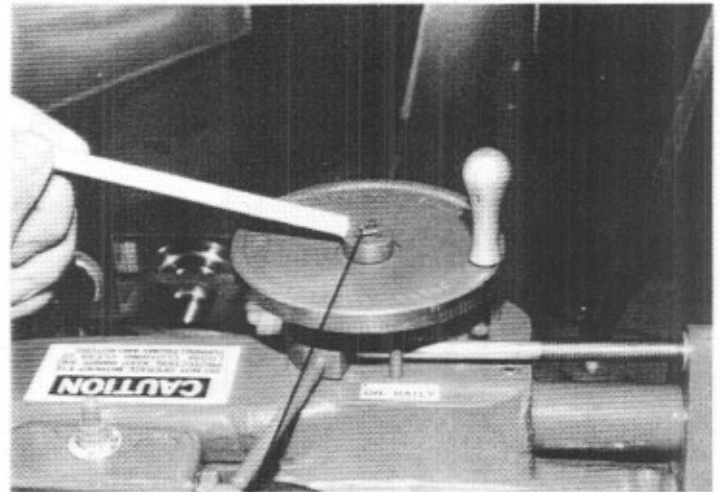
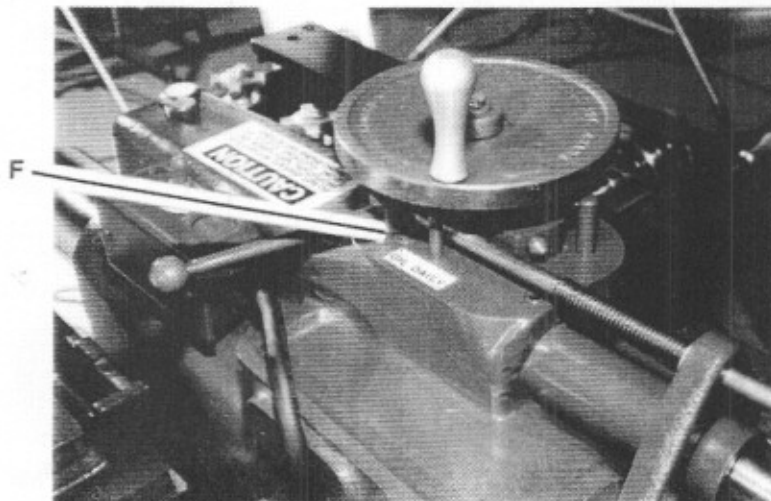

FIGURE 3
FIGURE 4
- 401B Vertical Shaft assembly-Lubricate daily, for best performance, using 30 S.A.E. oil. 3-5 drops, figure 3 at "E" and figure 4 at "F".